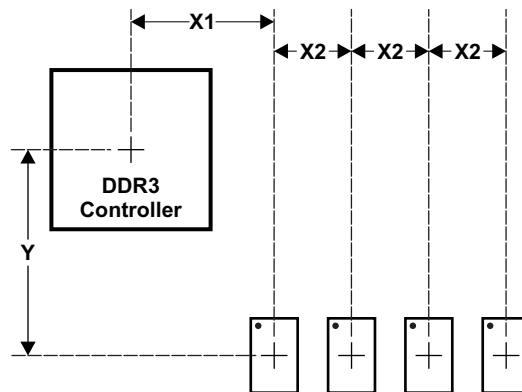

Figure 8-56. Placement Specifications
Figure 8-56 shows the required placement for the processor as well as the DDR3 devices. The dimensions for this figure are defined in Table 8-70. The placement does not restrict the side of the PCB on which the devices are mounted. The ultimate purpose of the placement is to limit the maximum trace lengths and allow for proper routing space. For a 16-bit DDR memory system, the high-word DDR3 device(s) are omitted from the placement.
- (1) For dimension definitions, see Figure 8-56.
- (2) Measurements from center of processor to center of DDR3 device.
- (3) Minimizing X1 and Y improves timing margins.
- (4) w is defined as the signal trace width.
- (5) Non-DDR3 signals allowed within DDR3 keepout region provided they are separated from DDR3 routing layers by a ground plane.
- (6) If a device has more than one DDR controller, the signals from the other controller(s) are considered non-DDR3 and should be separated by this specification.